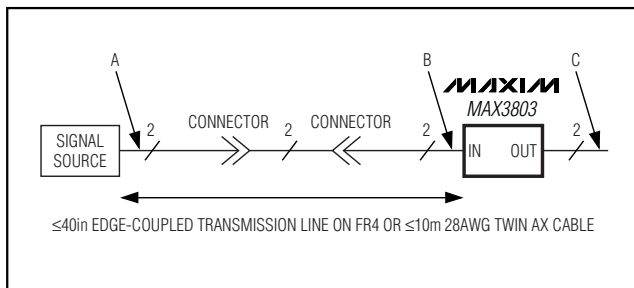

Figure 1. Backplane Interconnect
**Note 3:** Measured differentially at point C with  $50\Omega \pm 1\%$  at each side (Figure 1).
**Note 5:** Difference in peak-to-peak deterministic jitter between reference points A and C in Figure 1. Evaluated at 2.5Gbps with CJTPAT.
**Note 6:** Difference in peak-to-peak deterministic jitter between reference points A and C in Figure 1. Evaluated at 2.5Gbps with a PRBS 27 with 100 CIDs input pattern.
**Note 7:** Difference in peak-to-peak deterministic jitter between reference points A and C in Figure 1. Evaluated at 3.125Gbps with CJTPAT.